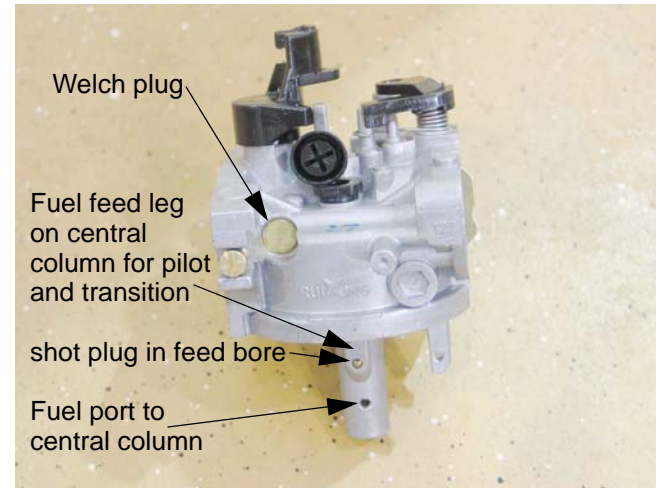

Figure 8.32
- 8.32. The throttle stop screw has a large pliable lip around the head of the screw. That lip secures a metering plug for the pilot and transition ports. Remove the screw to remove reach the plug. See Figure 8.32.